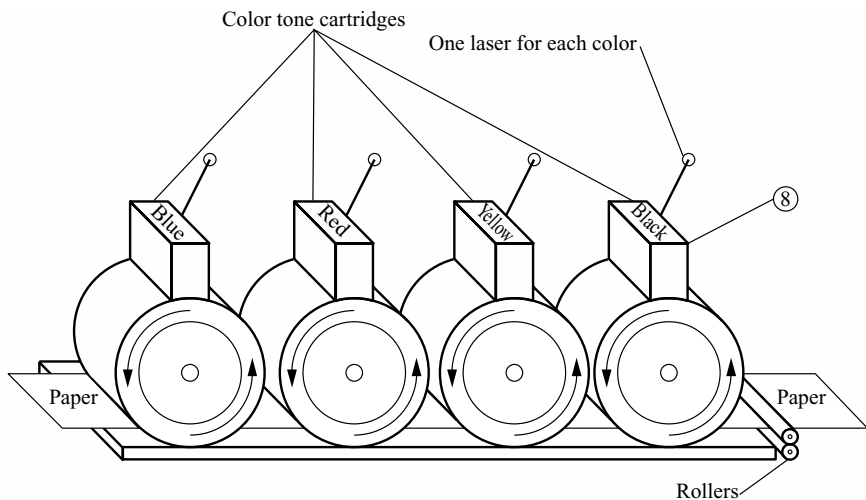

FIGURE 10-28 A drawing of tandem color laser printer.
- 8 The tandem color laser has separate lasers, as shown in Fig. 10-28, and photostatic drums for each color. The colors are transferred to the feed belt in one turn of the belt instead of the four that is required by a single-drum color laser printer.